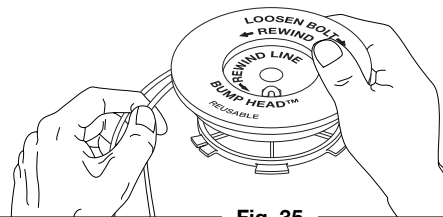

Fig. 35
7. Wind the lines in tight even layers, onto the reel (Fig. 35). Wind the line in the direction indicated on the inner reel. Place your index finger between the two lines to stop the lines from overlapping. Do not overlap the ends of the line. Proceed to step 11.
8. Take approximately 9 feet (3 m) of new trimming line. Insert one end of the line through one of the two holes in the inner reel (Fig. 35). Pull the line through the inner reel until only about 4 inches is left out.
9. Insert the end of the line into the open hole in the inner reel and pull the line tight to make the loop as small as possible (Fig. 35).